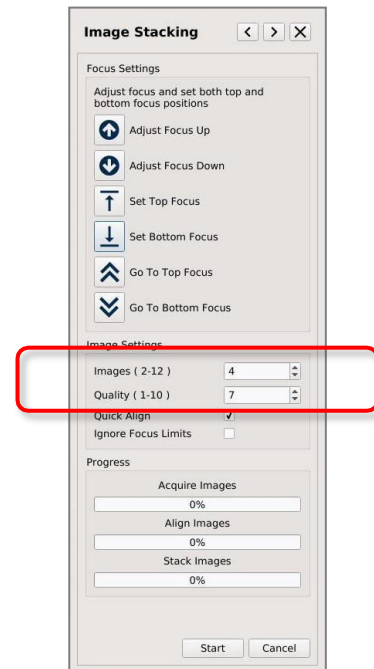

Fig. 36
6. For improved image quality you can increase the number of images taken in the stack and/or you can increase the quality (Fig.36). Doing so will increase the file size of the end image and may also slow the stacking process.